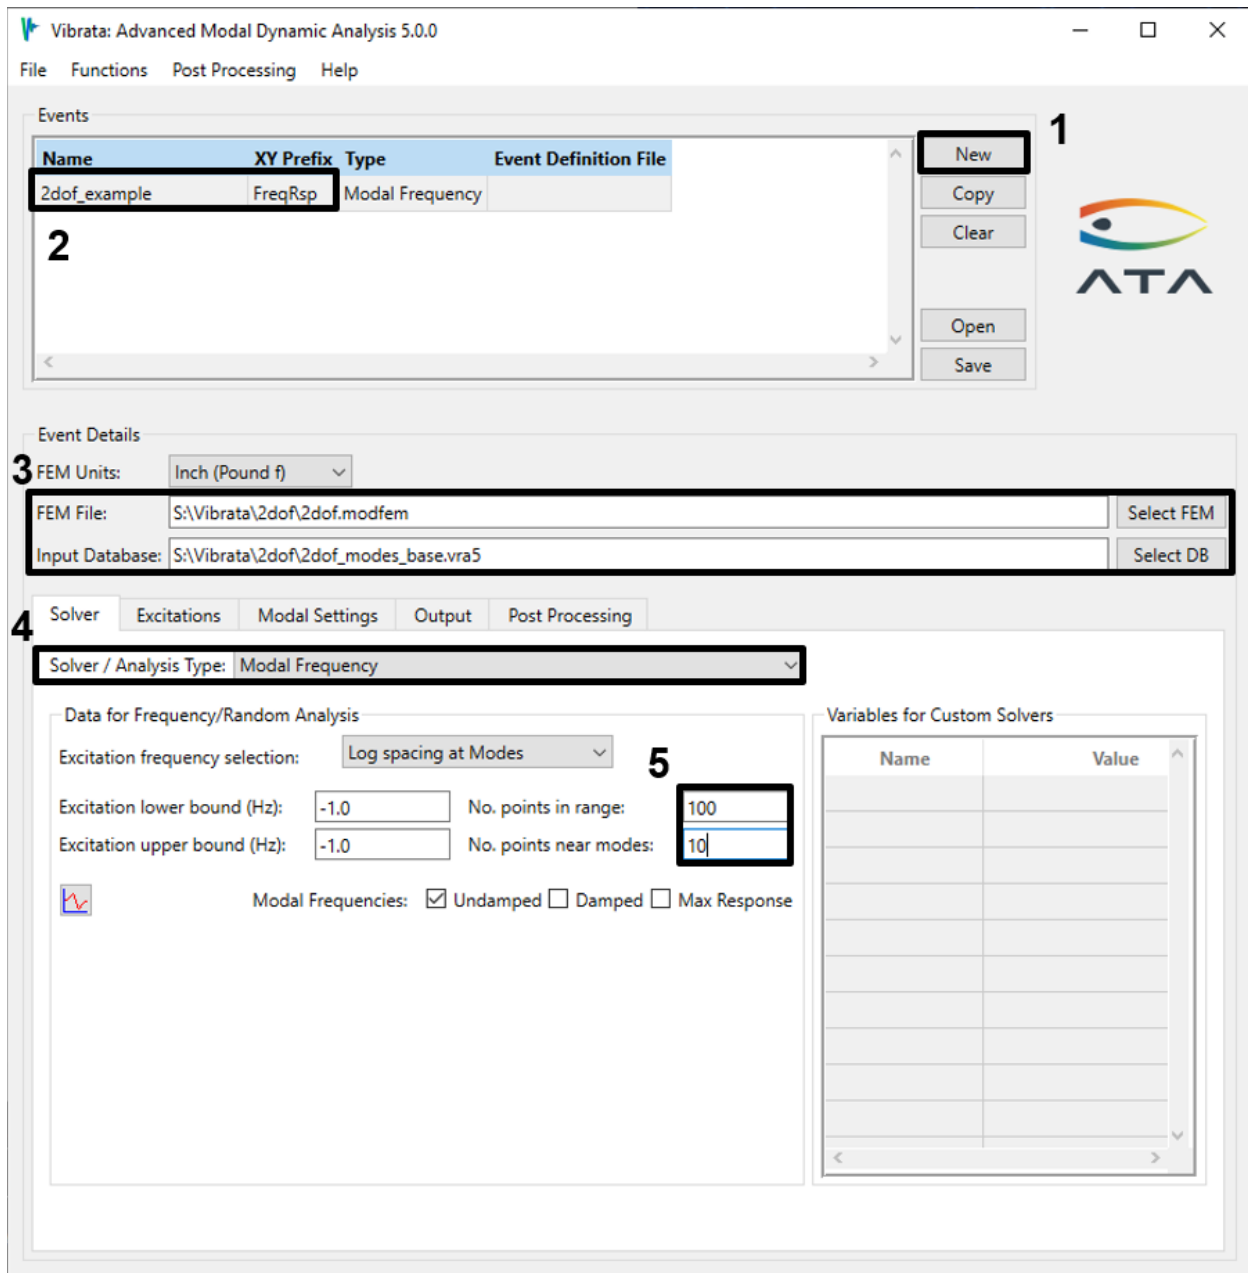

Figure 4-19. Set the number of points at which you want to compute responses.
3. Change the number of points in the range and near modes on the *Solver* tab, as in Figure 4-19. This will refine the discretization in the XY plot. (In real models with perhaps hundreds of modes, this will be far more refinement than you will actually want. Five points on either side of each mode will be plenty, and you may want only two points in the range.)